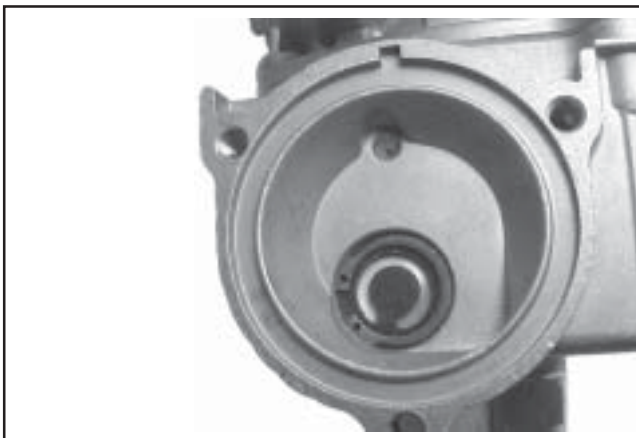

Figure 5-32. Check Valve and Retaining Ring Installed.
5. Install the new check valve into the fuel delivery chamber. Secure with the new retaining ring. See Figure 5-32.